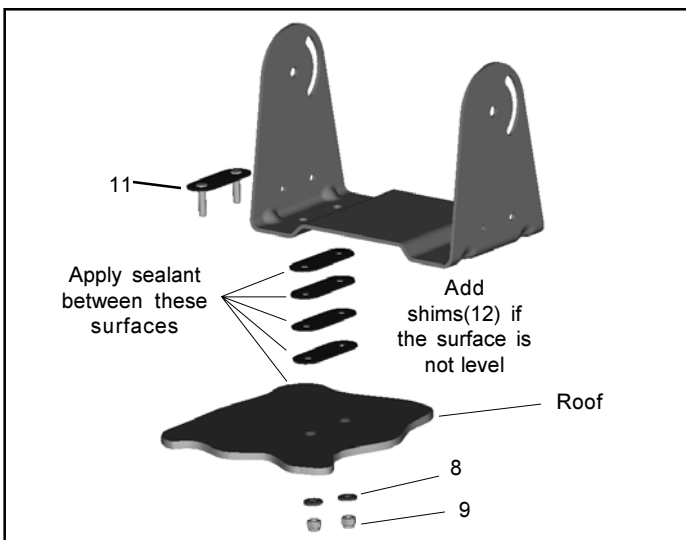

Figure 4 Sealant and Camera Mounting Bracket
14. Apply sealant between all contact areas (between the roof and the shims, between each shim, between the shim and the bracket, and between the bracket and stud plates). See Figure 4.
2. Position the camera bracket between the standoffs of the mounting bracket. Refer to Figures 4 and 5.